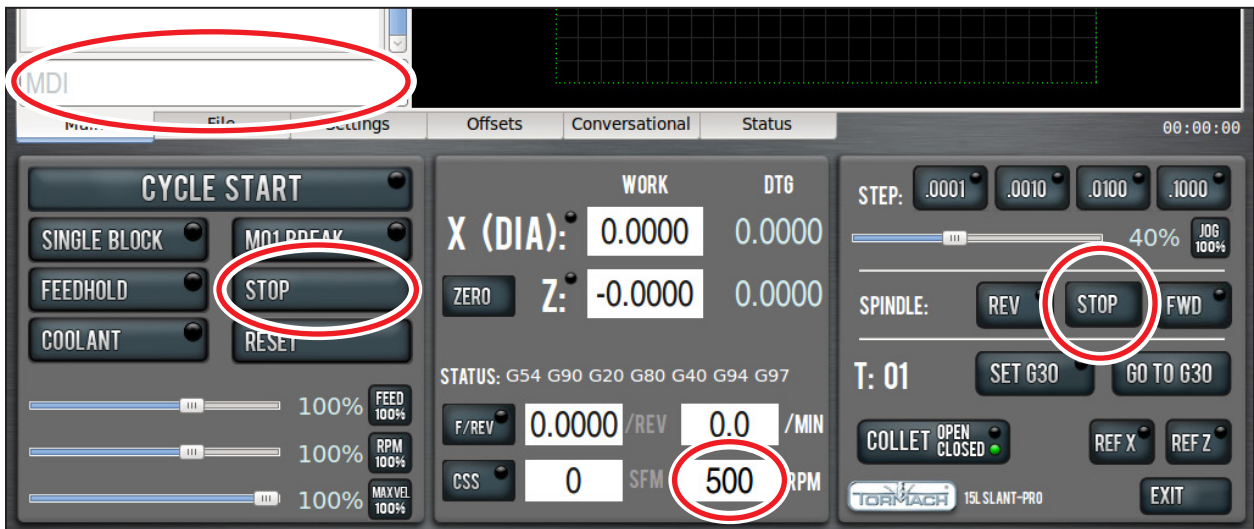

Figure 4.13
- Adjust spindle speed to 500 RPMs – either by entering 500 in the RPM DRO and clicking FWD or by typing G97 M03 S500 in the MDI line (see Figure 4.13).
- Stop the spindle by clicking either Stop or Spindle Stop, or by typing M05 in the MDI line (see Figure 4.13).